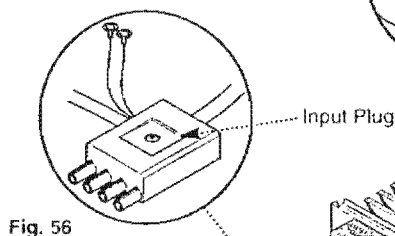

Fig. 56
2. Pull the input plug from the socket on the P.C.B. (Fig. 56).